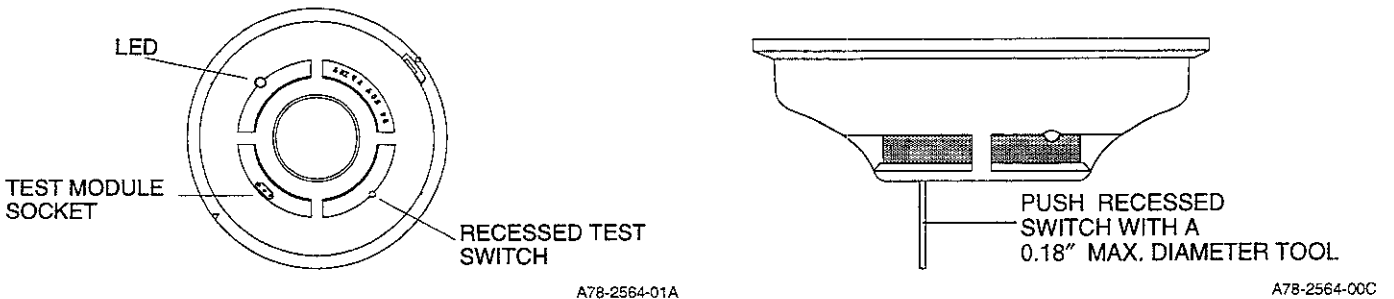

Figure 4. Top and side views showing test switch location
1. Press and hold the recessed test switch, located on the detector housing (see Figure 4), for 15 seconds with a 0.18 inch maximum diameter tool such as an Allen wrench or small screwdriver.